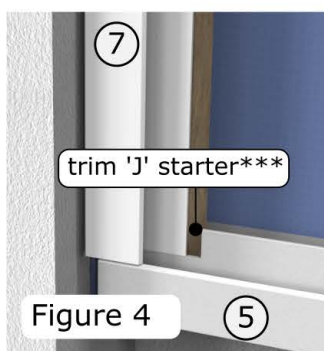

Figure 4
\*\*\* If using a 'J' edge trim (7) the 'J' starter (5) will need to be trimmed. see figure 4 the ventilation gap can be omitted here if you double the ventilation at the top to 16mm.